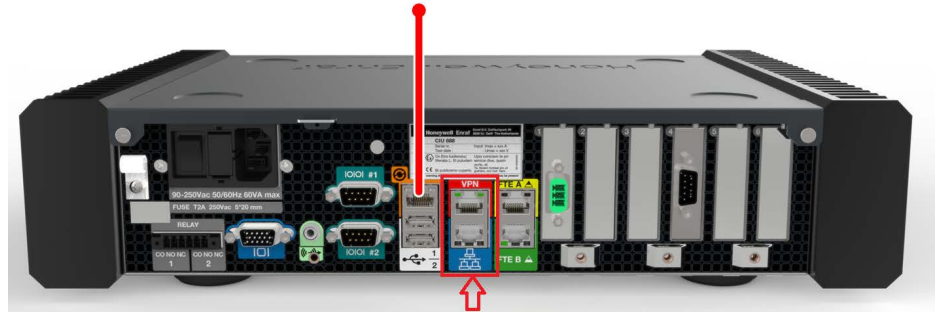

FIGURE 6-1
located at the front of the CIU 888 (see FIGURE 6-1). See Chapter 3 for more information about the CIU 888 Configuration System.
- A PC/laptop running the CIU 888 Configuration System must be connected to the Service port of the CIU 888 using a Cat. 5 Ethernet cable (patch or crossover). The Service port is located at the front of the CIU 888 (see FIGURE 6-1). See Chapter 3 for more information about the CIU 888 Configuration System.